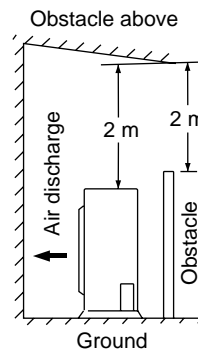

**Fig. 3**
- heat sources, exhaust fans, etc. (Fig. 3)